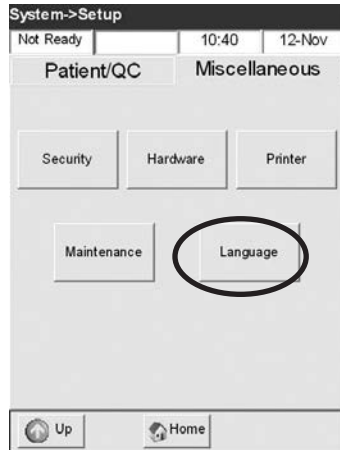

Fig. 3-49 Select Language
2. In the **<System Setup>** menu, press the **<Miscellaneous>** tab and then **<Language>** (Fig. 3-49).